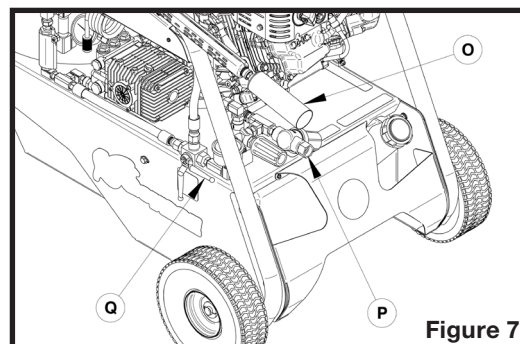

Figure 7
2. Remove the washing nozzle or weed killing tool at the wand outlet (O on figure 7).
3. Connect a water supply hose at the machine inlet (P on figure 7) and open the hose valve. The supply hose flow rate must be at least 4 gpm (15 l/min).
4. Turn the mode selection valve (Q on figure 7) on the side of the machine, to "Washer" position.